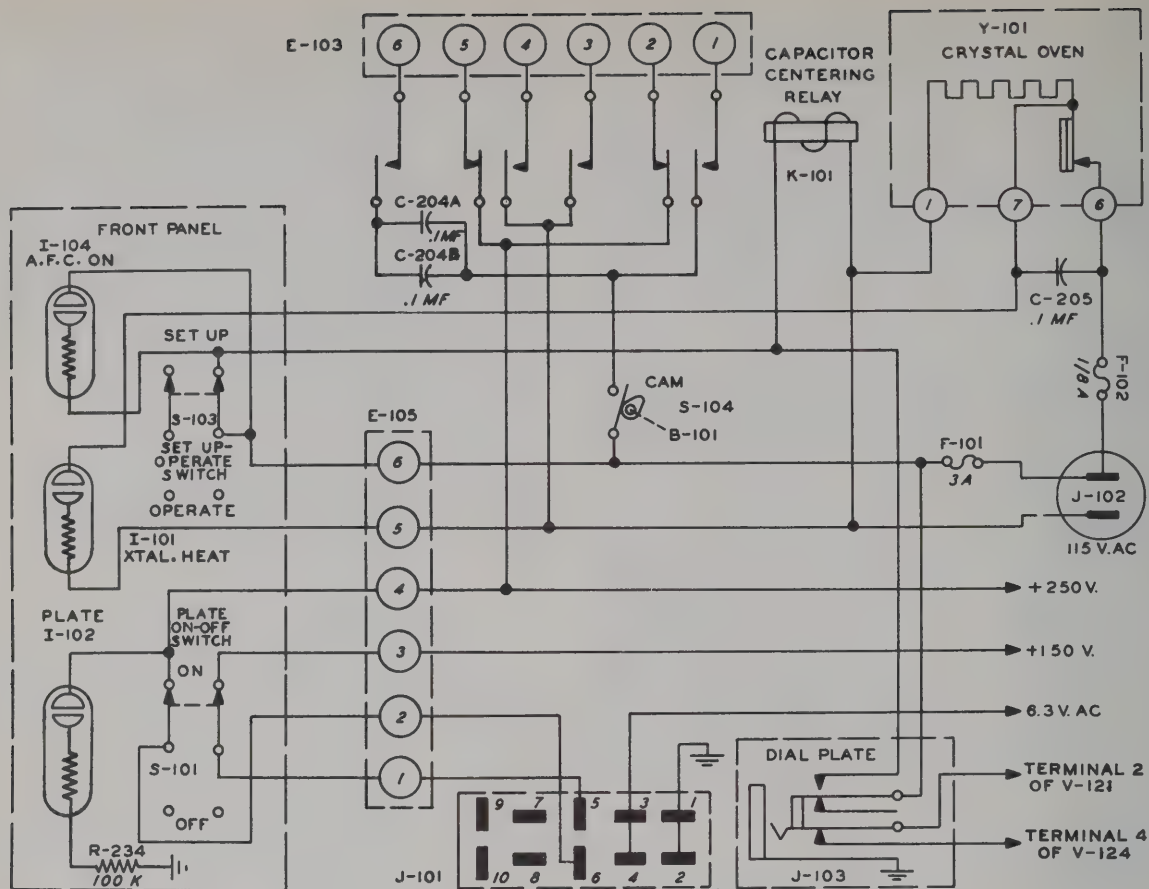

Figure 100. R-F Oscillator O-91/FRT-5, Power Control Circuit, Schematic Diagram.
- (p) *Power control circuits (fig. 100).* Turning the SETUP-OPERATE switch to the SETUP position, or inserting a plug in the headphone jack, J-103, energizes capacitor centering relay K-101. The operation of this relay disables the automatic frequency control functions by removing plate voltage from the power amplifiers, V-119 through V-122, and extinguishes the AFC ON lamp I-104. In addition, contacts of K-101 cause 115-volt 60-cycle power to be applied to the motor B-101 through cam-actuated switch S-104. The afc motor runs until the capacitor, C-126, is centered in its range, at which time a cam opens S-104 and stops the rotation.